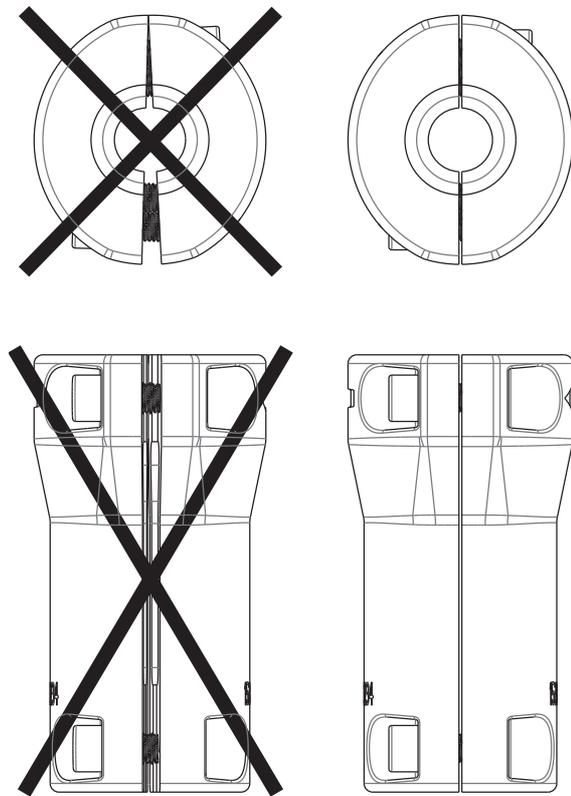

Figure 23: Tighten the coupling DPV(S) 85 B
4. Fully tighten the couplings to the correct torque mentioned in chapter Torques. Make sure that the gaps between the couplings are equally divided on both sides (see figure 23 Tighten the coupling DPV(S) 85 B).